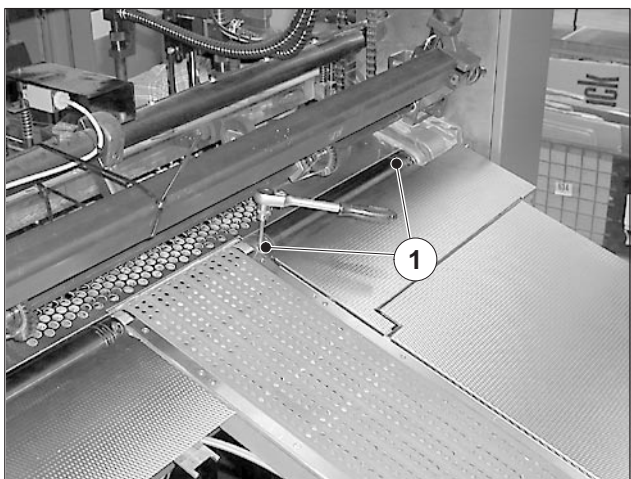

Fig. 102
7. Crank the suction tape drive roller until the screws (Fig. 102/1) on D.S. and O.S. are accessible.
9. Tighten the four screws (Fig. 102/1) on D.S. and on O.S.